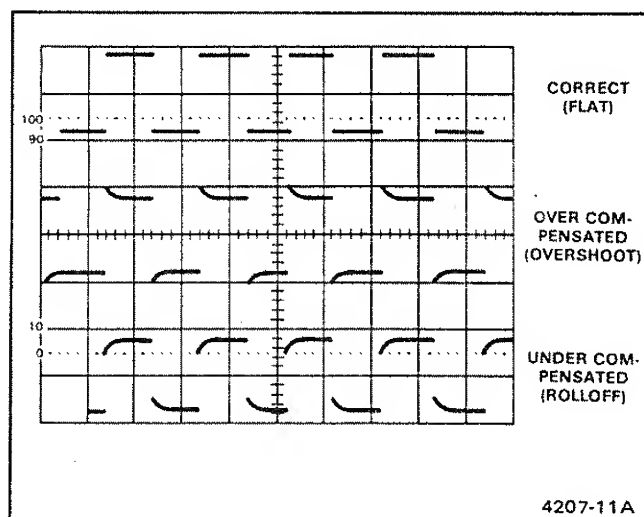

Figure 5-1. Probe Compensation.
5. Check the square-wave signal for overshoot and rolloff (see Figure 5-1). If necessary, use the special adjustment tool supplied in the probe accessory package to adjust the low-frequency compensation for a square front corner on the square wave.